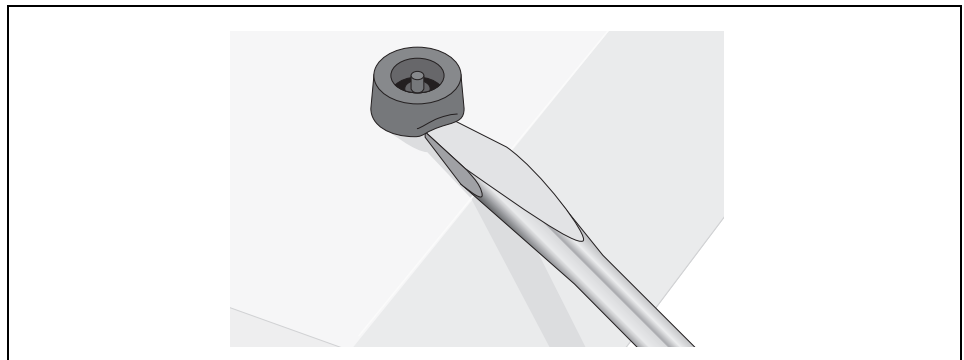

Figure 14. Removing the Feet
2. Using a flat-head screwdriver, remove the snap-on plastic feet from the bottom of the switch, as shown in Figure 14.